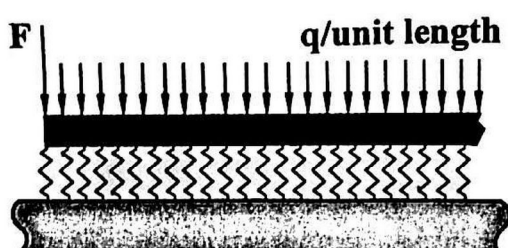

Fig. 4
5. A semi-infinite homogenous, isotropic and prismatic beam rested on an elastic foundation of modulus  $k$  is loaded with a uniformly distributed load  $q$  per unit length and a point force  $F$  as shown in Fig. 4. Derive the solution for the deflection of the beam. Also determine the location of the maximum bending moment and its magnitude. (5+3+2)